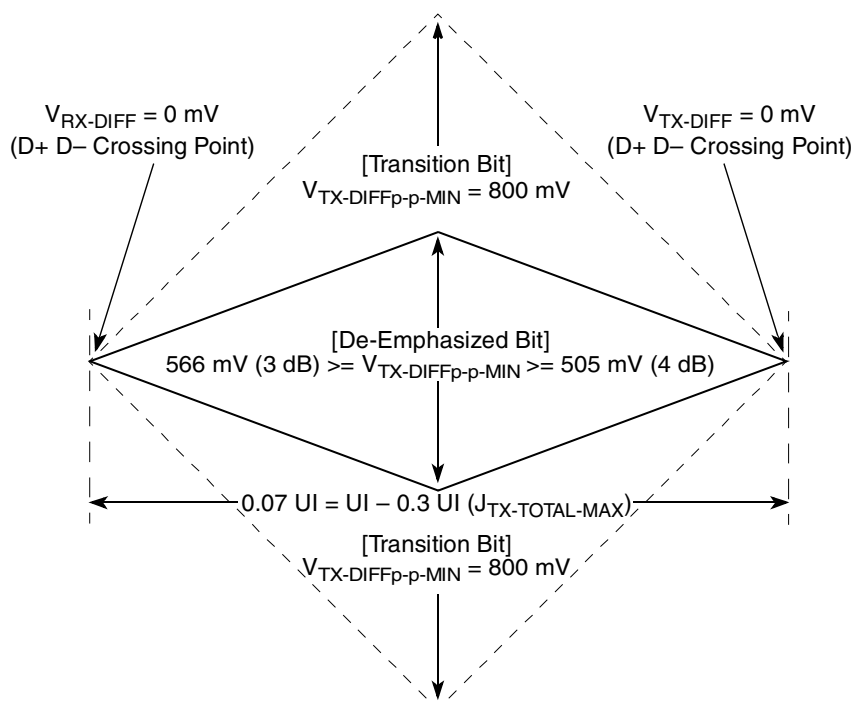
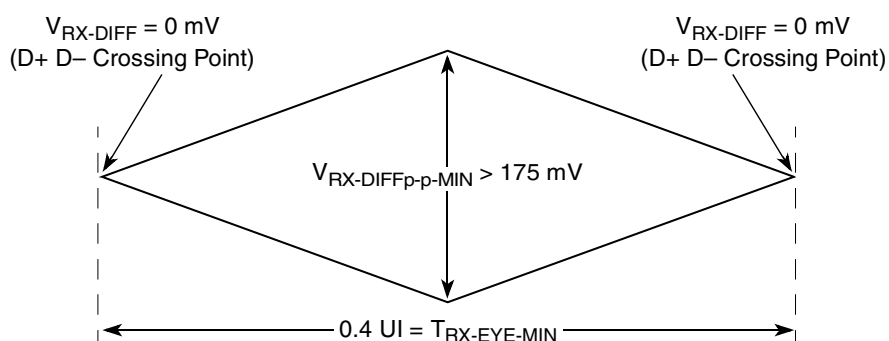
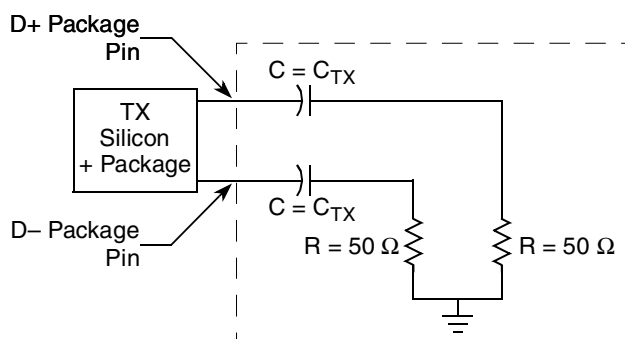

Figure 48. Minimum Transmitter Timing and Voltage Output Compliance Specifications
Figure 49. Minimum Receiver Eye Timing and Voltage Compliance Specification
Figure 50. Compliance Test/Measurement Load
2. Specified at the measurement point into a timing and voltage compliance test load as shown in Figure 50 and measured over any 250 consecutive TX UIs. (Also refer to the transmitter compliance eye diagram shown in Figure 48.)
4. The transmitter input impedance shall result in a differential return loss greater than or equal to 12 dB and a common mode return loss greater than or equal to 6 dB over a frequency range of 50 MHz to 1.25 GHz. This input impedance requirement applies to all valid input levels. The reference impedance for return loss measurements is 50  $\Omega$  to ground for both the D+ and D– line (that is, as measured by a vector network analyzer with 50- $\Omega$  probes—see Figure 50). Note that the series capacitors  $C_{TX}$  is optional for the return loss measurement.
5. Measured between 20%–80% at transmitter package pins into a test load as shown in Figure 50 for both  $V_{TX-D+}$  and  $V_{TX-D-}$ .
The TX eye diagram in Figure 48 is specified using the passive compliance/test measurement load (see Figure 50) in place of any real PCI Express interconnect +RX component.
2. Specified at the measurement point and measured over any 250 consecutive UIs. The test load in Figure 50 should be used as the RX device when taking measurements (also refer to the receiver compliance eye diagram shown in Figure 49). If the clocks to the RX and TX are not derived from the same reference clock, the TX UI recovered from 3500 consecutive UI must be used as a reference for the eye diagram.
4. The receiver input impedance shall result in a differential return loss greater than or equal to 15 dB with the D+ line biased to 300 mV and the D– line biased to –300 mV and a common mode return loss greater than or equal to 6 dB (no bias required) over a frequency range of 50 MHz to 1.25 GHz. This input impedance requirement applies to all valid input levels. The reference impedance for return loss measurements for is 50  $\Omega$  to ground for both the D+ and D– line (that is, as measured by a vector network analyzer with 50- $\Omega$  probes—see Figure 50). Note: that the series capacitors CTX is optional for the return loss measurement.
The RX eye diagram in Figure 49 is specified using the passive compliance/test measurement load (see Figure 50) in place of any real PCI Express RX component.
Note: In general, the minimum receiver eye diagram measured with the compliance/test measurement load (see Figure 50) will be larger than the minimum receiver eye diagram measured over a range of systems at the input receiver of any real PCI Express component. The degraded eye diagram at the input receiver is due to traces internal to the package as well as silicon parasitic characteristics which cause the real PCI Express component to vary in impedance from the compliance/test measurement load. The input receiver eye diagram is implementation specific and is not specified. RX component designer should provide additional margin to adequately compensate for the degraded minimum receiver eye diagram (shown in Figure 49) expected at the input receiver based on some adequate combination of system simulations and the return loss measured looking into the RX package and silicon. The RX eye diagram must be aligned in time using the jitter median to locate the center of the eye diagram.
The reference impedance for return loss measurements is 50. to ground for both the D+ and D– line (that is, as measured by a vector network analyzer with 50-Ω probes—see Figure 50). Note that the series capacitors, CTX, are optional for the return loss measurement.
The AC timing and voltage parameters must be verified at the measurement point, as specified within 0.2 inches of the package pins, into a test/measurement load shown in Figure 50.